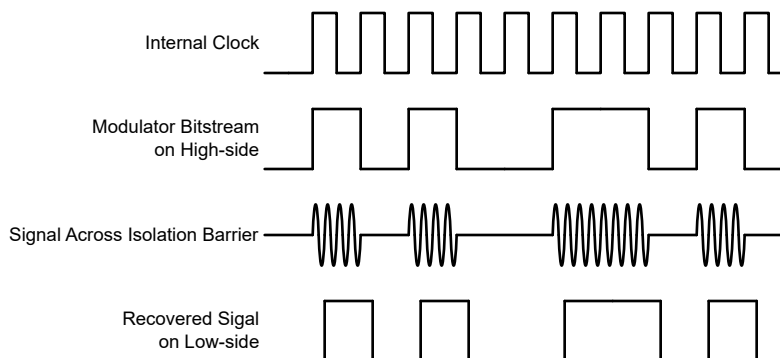

Figure 7-1. OOK-Based Modulation Scheme
The AMC1411 uses an on-off keying (OOK) modulation scheme, as shown in Figure 7-1, to transmit the modulator output bitstream across the SiO₂-based isolation barrier. The transmit driver (TX) shown in the Functional Block Diagram transmits an internally-generated, high-frequency carrier across the isolation barrier to represent a digital *one* and does not send a signal to represent a digital *zero*. The nominal frequency of the carrier used inside the AMC1411 is 480 MHz.